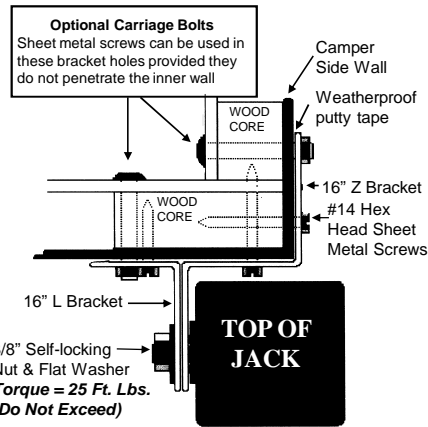

Fig. 2 - Drivers Side Front Corner (looking downward)
- Holes 10 & 12 may be secured with a bolt as shown in fig. 2 (best when possible). If not, Sheet metal screws can be used if material exists in camper to hold screw securely.
- Secure the L bracket to camper with #14 sheet metal screws described in step 5. Start at center and work out to ends. As with the Z bracket, bolts can be used, if possible, in the 2 larger holes (see fig. 2).
- Mount the jack to the bracket by placing the 3/8" stud bolts on jack through holes A, D & G (fig. 1). Secure with 3/8" flat washer and self-locking nut (fig. 2). **Torque = 25 Ft. Lbs. (Do Not Exceed)** Note: Alternate installation scheme may require a bolt rather than a stud and nut at hole G.